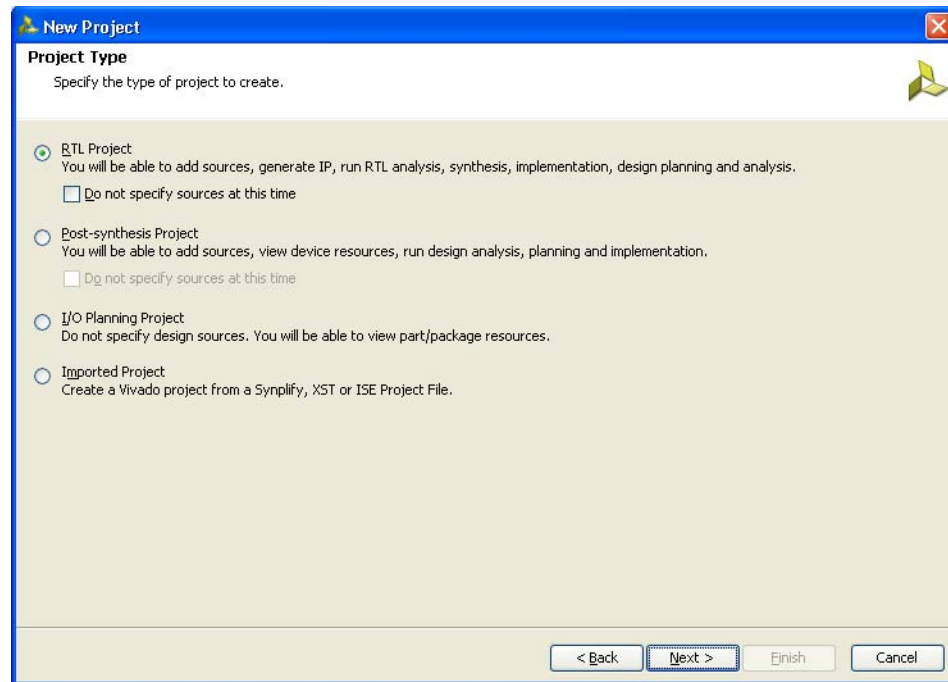

Figure 4-4: Project Type
- Click **Next** to proceed to the **Project Type** page (Figure 4-4). Select the **Project Type** as **RTL Project** because MIG deliverables are RTL files.